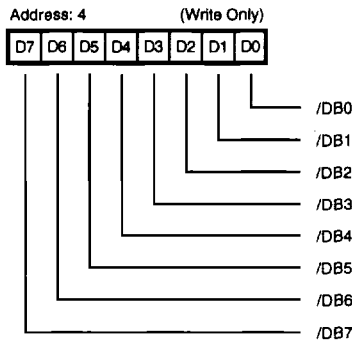

Figure 26. Select Enable Register
Select Enable Register Address 4 (Write Only). The Select Enable Register (Figure 26) is a write-only register which is used as a mask to monitor a signal ID during a selection attempt. The simultaneous occurrence of the correct ID bit, /BSY false, and /SEL true will cause an interrupt. This interrupt can be disabled by resetting all bits in this register. If the Enable Parity Checking bit (Mode Register, bit 5) is active (1), parity is checked during selection.